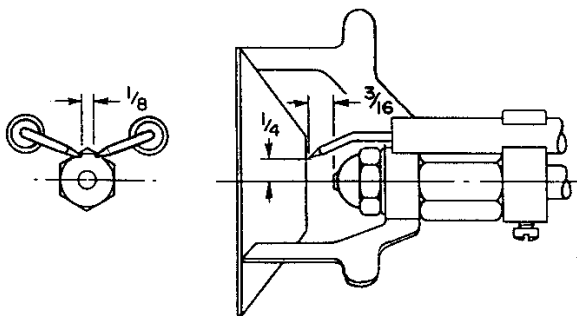

Figure 27B: "L1" and "V1" Head Electrode Positioning and Gun Setting (Beckett AFG)
- b. If the fire is a little too rich, move the combustion head slightly forward by increasing dimension "A". Refer to Figure 27B.